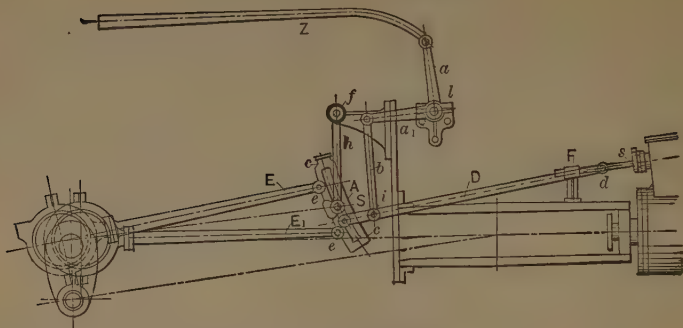

Fig. 227. Reversing Gear.
A. Yes; for instance, those shown in Figs. 227, 228, 229.